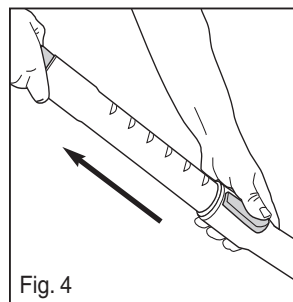

Fig. 4
- To store: Slip floor nozzle tab into slot on back of vacuum (Fig. 4).
- To lengthen wand, push wand release button and pull to extend telescoping wand (Fig. 4).